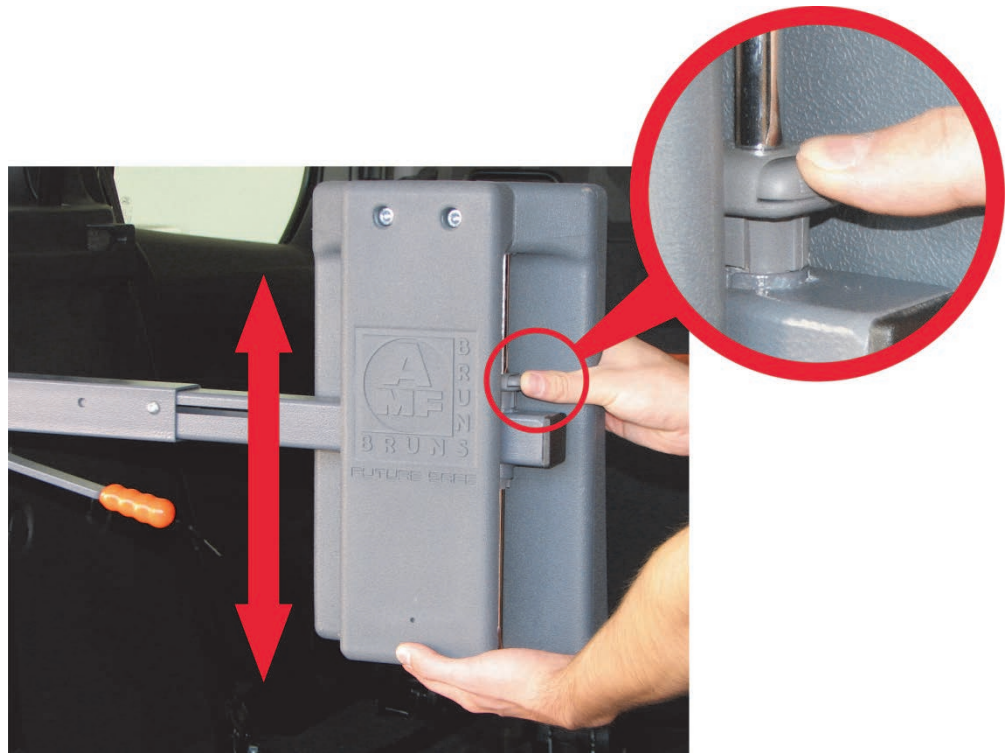

Figure 6: Adjusting the Height
- ⇒ Press the latch button on the head- or backrest and hold it pressed (see Figure 6).